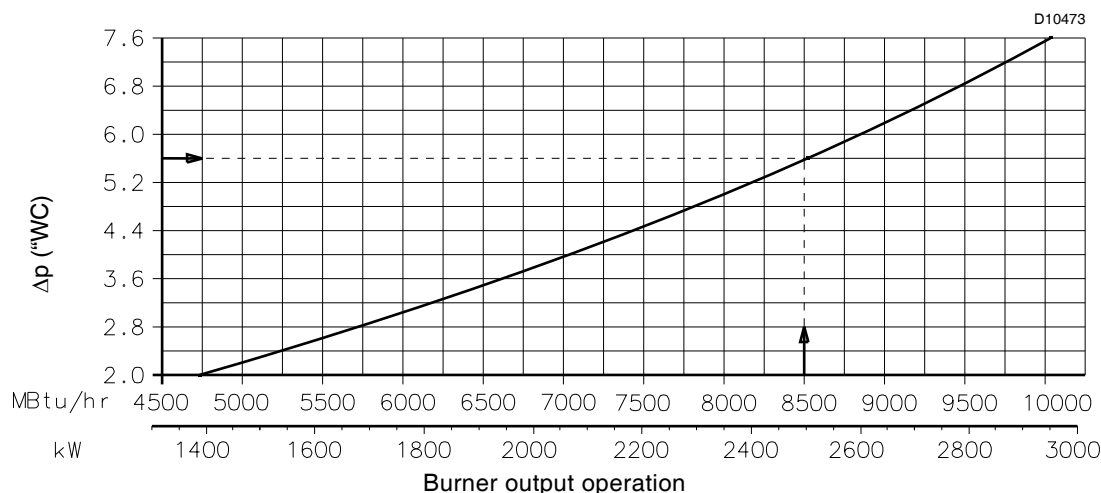
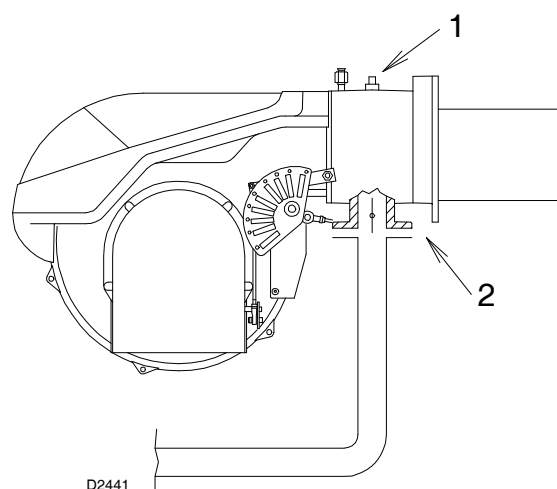

Fig. 21
Fig. 22
The diagram (Fig. 21) show minimum load losses at combustion head depending on the maximum burner output operation with natural gas (G 20).
Gas pressure is measured at the test point 1)(Fig. 22), with:
- subtract the combustion chamber pressure from the gas pressure measured at test point 1)(Fig. 22);
- find, in the diagram (Fig. 21) the pressure value closest to the result you want;
- Gas pressure at test point 1)(Fig. 22) = 6.8 "wc
To know the required gas pressure at test point 1)(Fig. 22), set the maximum output required from the burner operation, then:
- read, on the diagram (Fig. 21), the pressure test point 1) (Fig. 22);
- pressure required at pressure test point 1)(Fig. 22).
Δp "WC gas butterfly 2)(Fig.22).